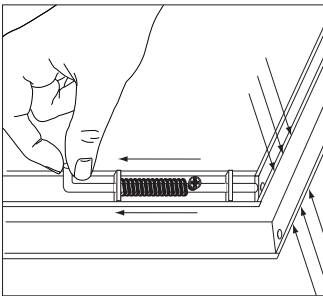

Fig. 1
Step 1: Pull Spring Lock assembly back until pin is inside door frame (Fig. 1).